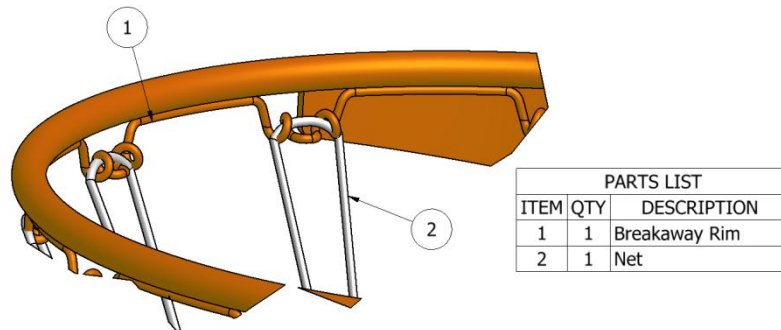

Figure 5-3: Net installation, GBA-542 & GBA-548 ONLY.
1. Install the net by wrapping the long loops in the net into the pigtails (Figure 5-3).